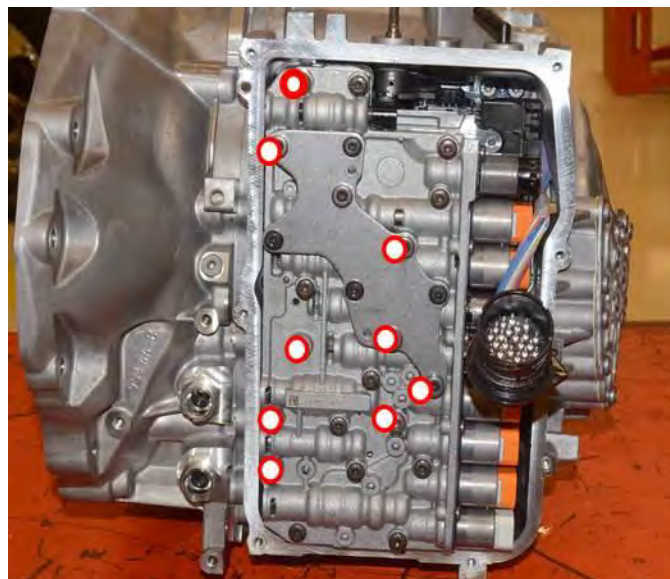

Fig. 4 Only Remove Bolts Highlighted
- 6. Remove the valve body retaining bolts securing the valve body assembly to the transmission case. Only 9 bolts will need to be removed in order to remove the valve body. See (Fig. 4).